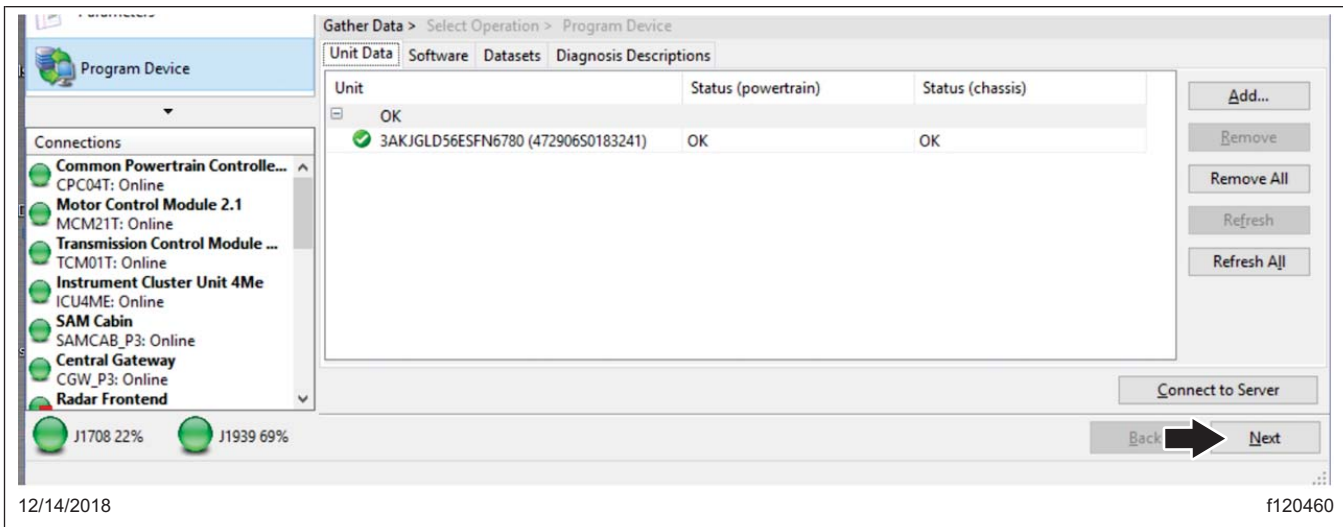

Fig. 9, Clicking Next
9. Once the data has been downloaded, click "Next". See Fig. 9.